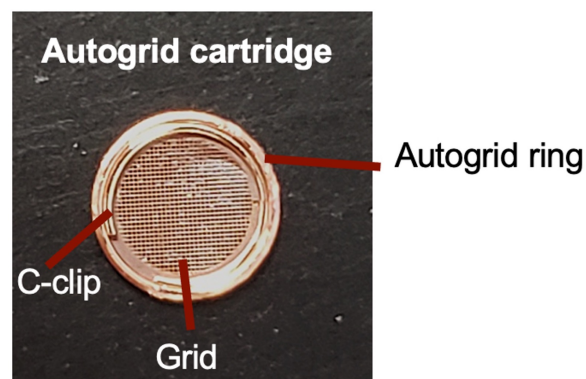

Figure 5. Properly clipped grid.
- 4.3.11. Inspect the grid to ensure it has clipped properly, using magnification if necessary (see figure 5). You can also flip the autogrid cartridge upside down and back to make sure the grid and/or clip ring do not fall out.